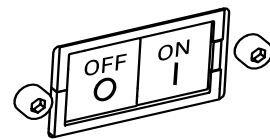

Figure 5.3. Contact breaker.
1. Turn on the circuit breaker, see Figure 5.3.